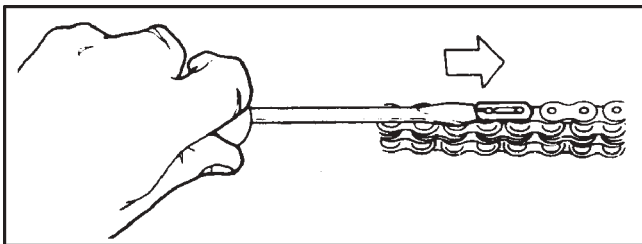
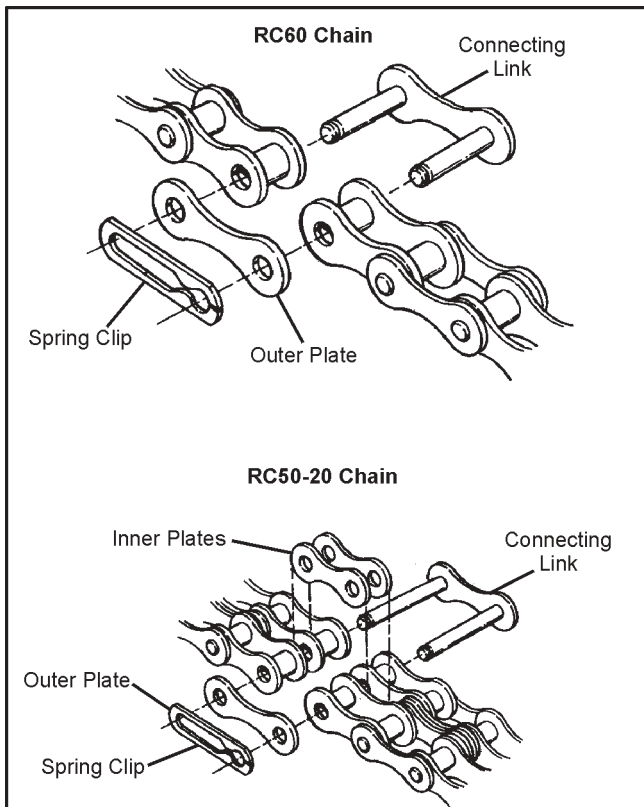

Figure 7-7. Removal of the spring clip.
Figure 7-8. Chain connection link components.
5. Remove the spring clip from the connecting link as shown in Figure 7-7. Remove the outside plate and tap out the connecting link. The inside plates will be released when the connecting link is removed (Figure 7-8).
2. Pull the ends of the chain together and insert the connecting link as shown in Figure 7-8 and 7-9. When connecting the RC50-2 chain, insert the inside plates before tapping the connecting link into position.
2. Remove the spring clip or cotter pins, depending on model, from the connecting link. Remove the outside plate and tap out the connecting link. On models that utilize a double 40 or 50 drive chain, as the connecting link is removed, the inside plates will be released (refer to Figure 7-8). Models with single 60 drive idler chains have no inside plates.
3. Replace the outside plate and spring clip as shown in Figure 7-7. Note: Avenger models are secured with two (2) cotter pins. Always use new cotter pins.